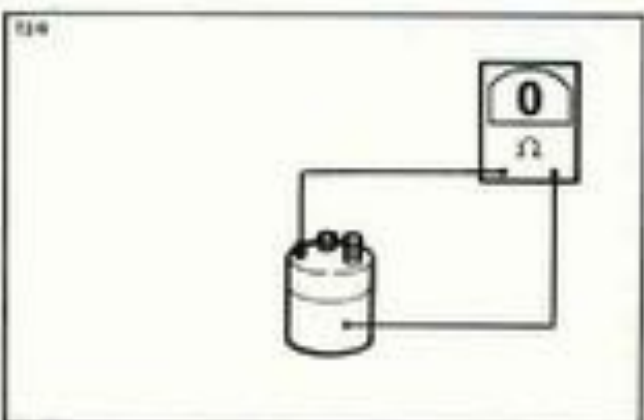

Figure 5-22. Testing Solenoid Hold-in Coil
5. See Figure 5-22. Check the hold-in coil for continuity by touching one ohmmeter probe to the solenoid case and the other probe to the smaller diameter terminal. Again there should be continuity less than one ohm approximately .6 ohm resistance.